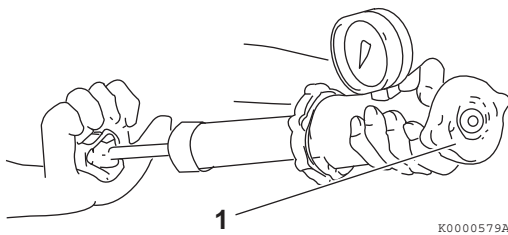

Figure 8-12
1. Check for proper operation of the radiator cap. Install the radiator cap (**Figure 8-12, (1)**) on a cooling system tester.